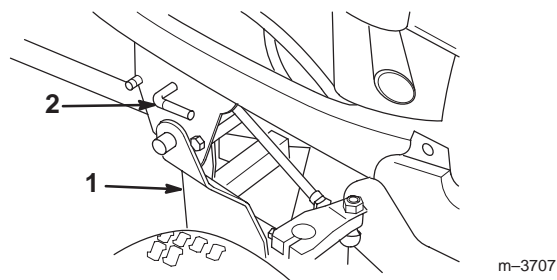

Figure 15
4. Use the crank support as a lever to lift the snowthrower frame until its connecting pins are completely inside the notches in the mid Attach-A-Matic hitch (Fig. 15).
5. Turn the mid Attach-A-Matic hitch lever counterclockwise to lock the snowthrower in place (Fig. 15).